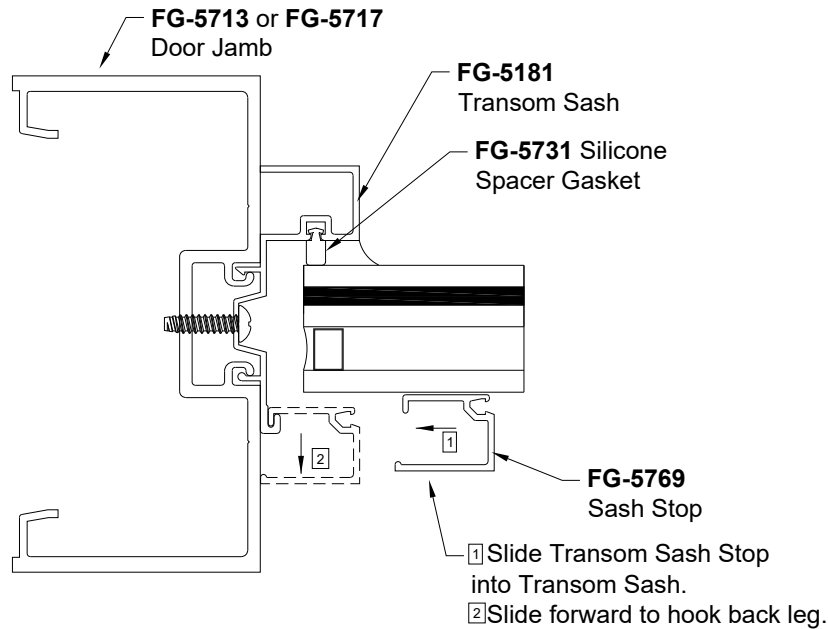

Figure 28: Level E Transom Sash Stop Installation
12.7.2 Install the Sash Stop. FG-5769 Sash Stop installation is shown in Figure 28.